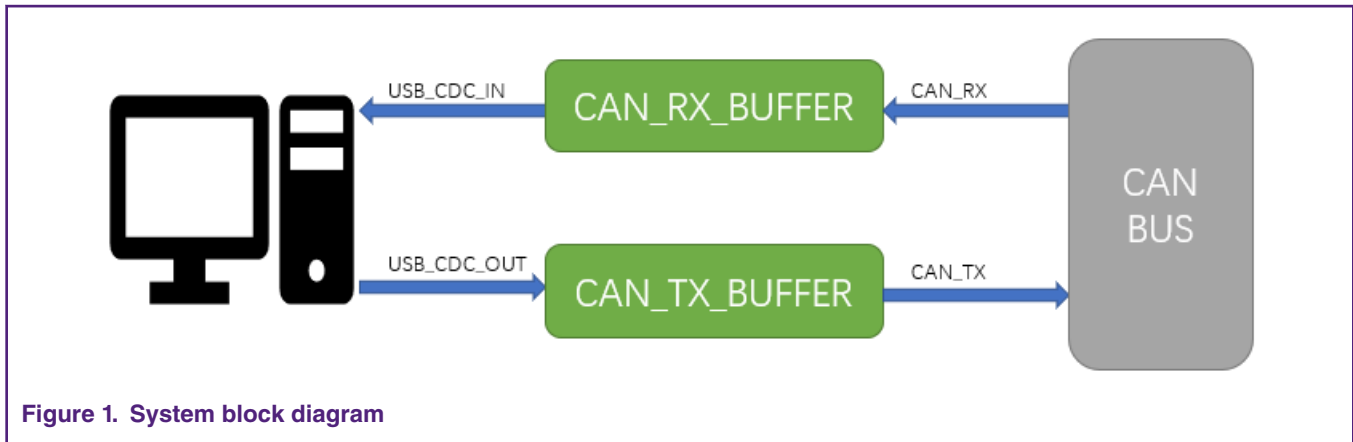

Figure 1. System block diagram
System block diagram is shown in Figure 1 .The CAN driver and USB Stack is already provided by SDK. You need to add 2 buffers for each pipe, one for USB->CAN-bus, another for CAN-bus->US. The two pipes are independent to make sure best performance.
2. USB and CAN are running with different speed, we need to implement two FIFOs, one for CAN Tx buffer and one for CAN Rx buffer as Figure 1 shows